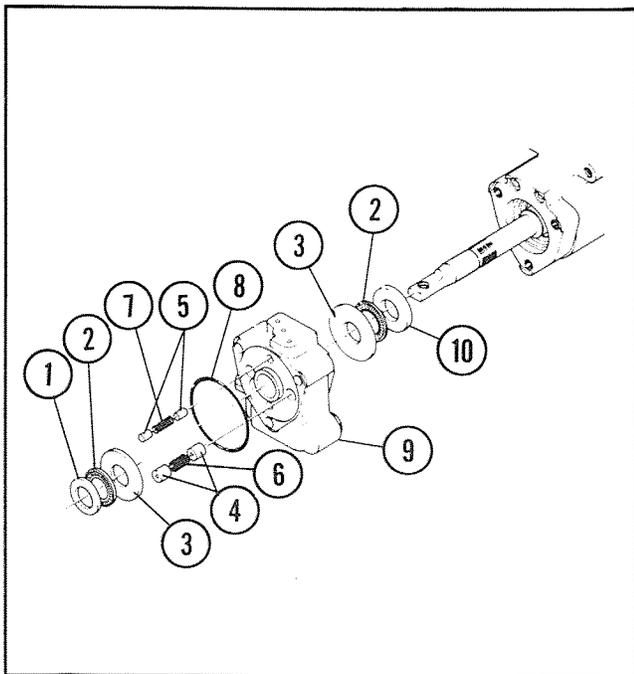

Figure 33
7. Remove the assembly plate and remove the valve assembly, Figure 33.